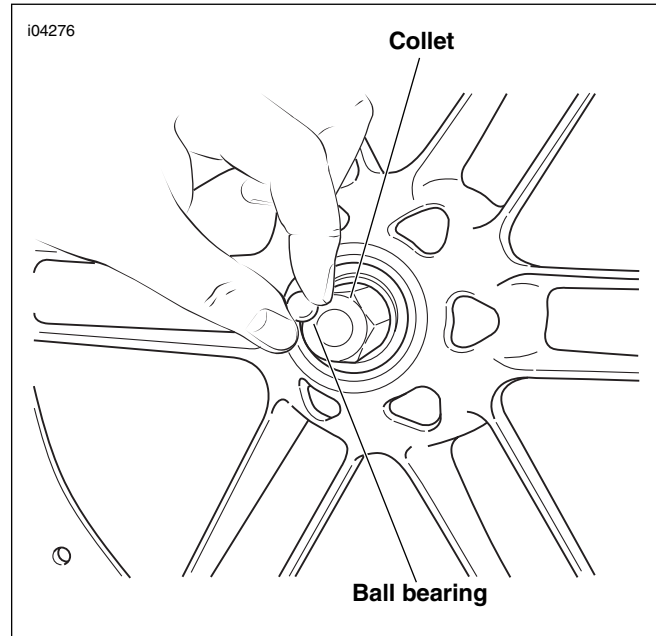

Figure 2-7. Install Collet and Ball Bearing
3. Assemble the short forcing screw (1), nut (2), Nice bearing (3), washer (4) and bridge (5) from the WHEEL BEARING INSTALLER/REMOVER (HD-44060).
4. See Figure 2-7. Insert the FRONT WHEEL BEARING REMOVER COLLET (B-43993-7) into the wheel bearing until it fully seats against the bearing.